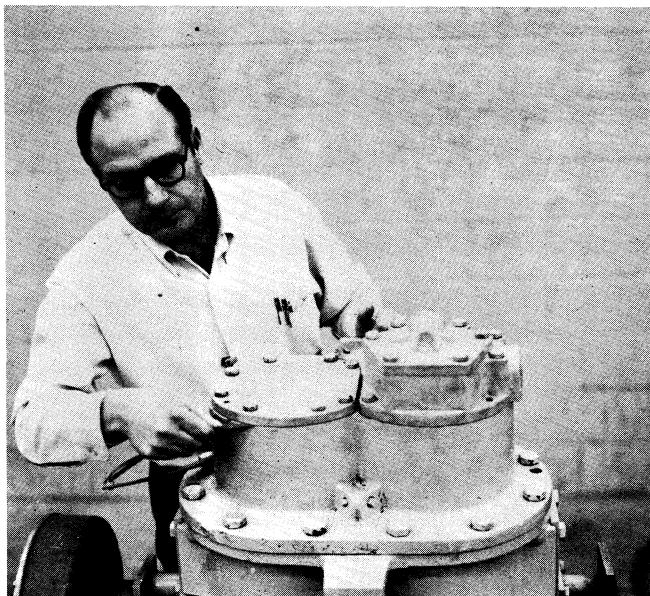

Figure 32
20. Using a feeler gauge, make sure there is a gap between the oil pump and the bearing housing and between the bearing cover and the housing. Refer to Figure 32. This gap must be present to insure the bearings are pulled down tight in the housing. Older machines may have shims at this point. These shims should be discarded and should not be replaced.